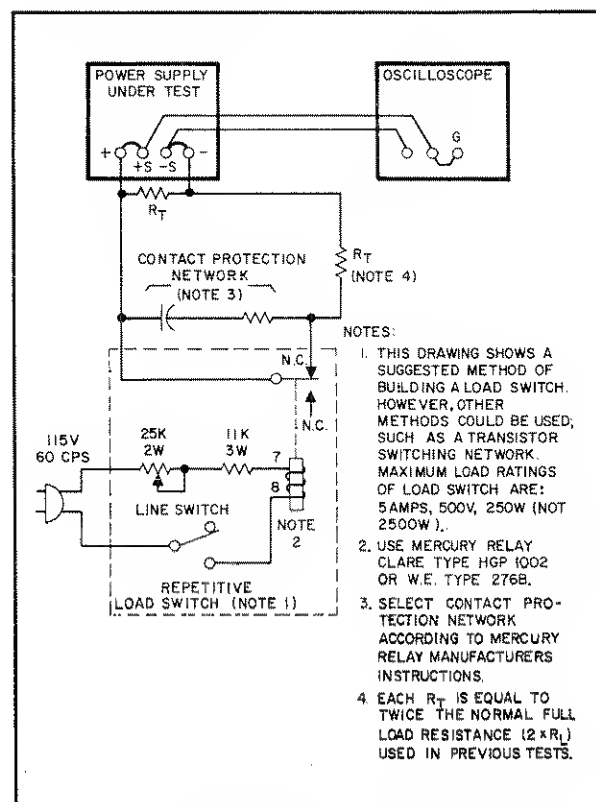

Figure 5-4. Transient Recovery Time, Test Setup
**5-34** A mercury-wetted relay, as connected in the load switching circuit of Figure 5-4 should be used for loading and unloading the supply. When this load switch is connected to a 60Hz AC input, the mercury-wetted relay will open and close 60 times per second. Adjustment of the 25K control permits adjustment of the duty cycle of the load current switching and reduction in jitter of the oscilloscope display. This relay may also be used with a 50Hz ac input.
**5-35** The maximum load ratings listed in Figure 5-4 must be observed in order to preserve the mercury-wetted relay contacts. Switching of larger load currents can be accomplished with mercury pool relays; with this technique fast rise times can still be obtained, but the large inertia of mercury pool relays limits the maximum repetition rate of load switching and makes the clear display of the transient recovery characteristic on an oscilloscope more difficult.
- a. Connect test setup shown in Figure 5-4. 80h load resistors ( $R_T$ ) are twice normal value of full load resistance.